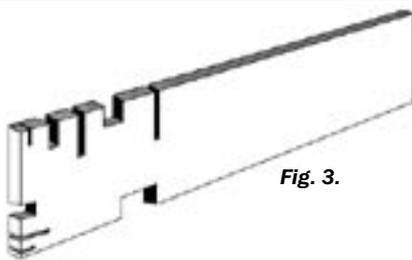
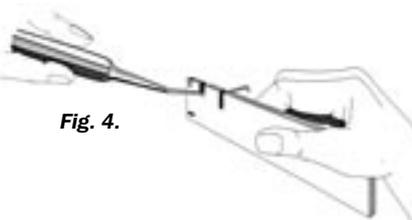

Fig. 3.
Fig. 4.
**Alignment.** Check teeth and jaws under the microscope. With a locally made bending tool, and a little practice, many instruments can be repaired easily (see Box 1, Figures 3 & 4). Find the point of greatest misalignment and straighten this first. When bending, choose a slot that fits the instrument well and over-correct slightly because the metal will spring back a little.
The suggested dimensions for a bending tool are one inch wide, five inches long and  $\frac{1}{8}$  to  $\frac{1}{4}$  inch thick. The bending tool should be made from brass or mild steel (Figure 3). The grooves on the tool can vary in width from the thinnest cut that you can make up to about  $\frac{1}{8}$  to  $\frac{1}{4}$  of an inch. Narrow slots are preferable. The slots can be cut with a hacksaw and smoothed or widened with a file (Figure 4).